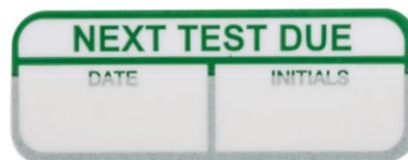

Figure 167: Maintenance label
- The maintenance label is glue by fitter to indicate the next due maintenance date (See Figure 167).